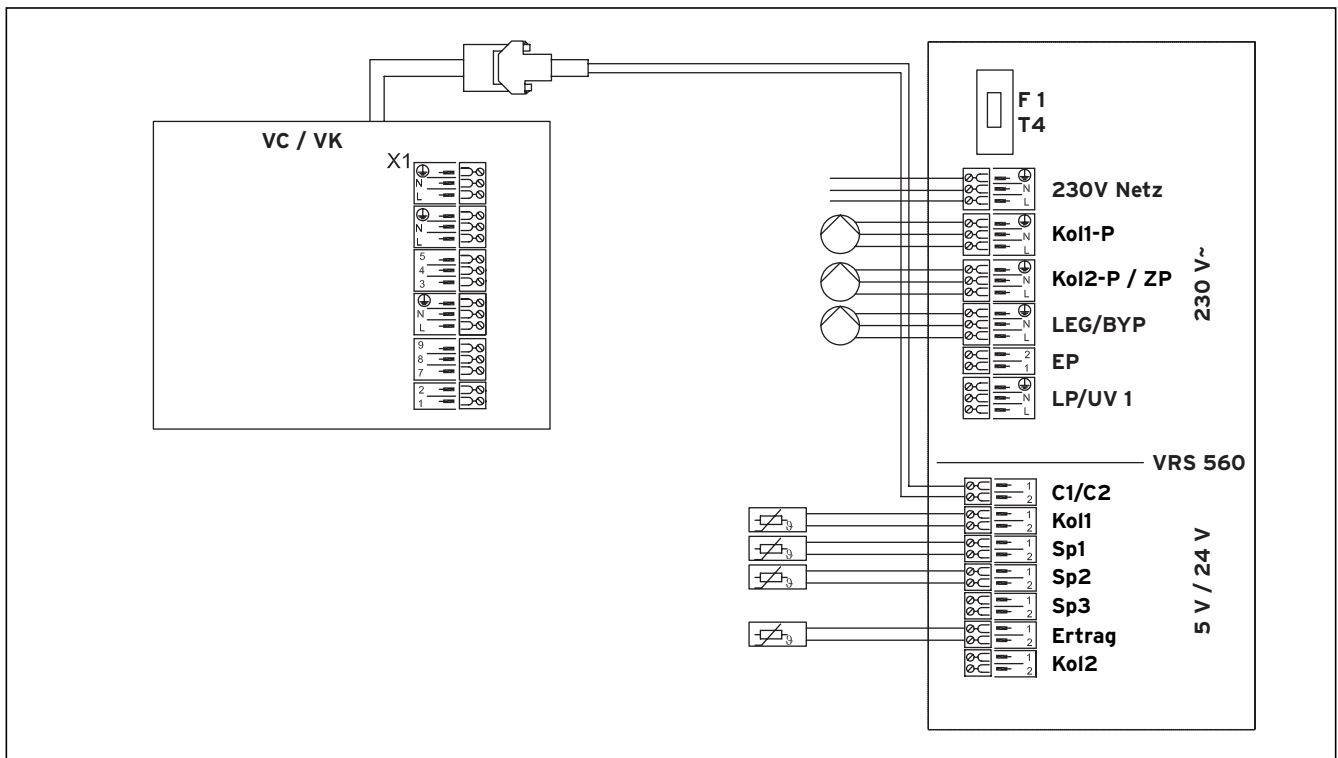

Fig. 5.2 Connection diagram for hydraulic plan 1
**Table 5.2 Key for Fig. 5.1 and Fig. 5.2**
**Table 5.2 Legend for Fig. 5.1 and Fig. 5.2 (continued)**